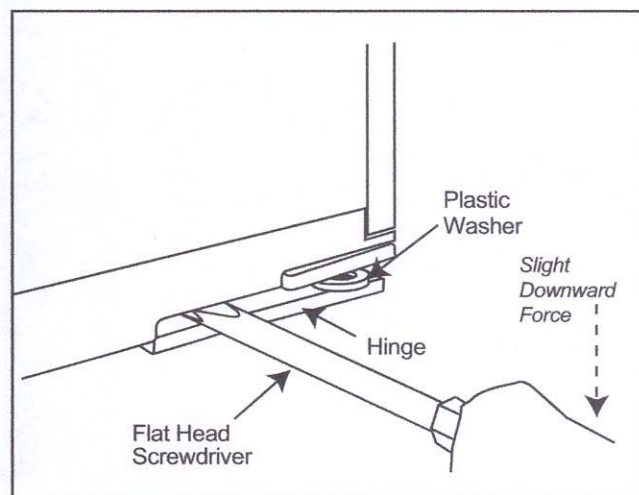

Figure 4. Plastic washer insertion (on both doors)
11. Insert the tip of a 1/4 in. size flat blade screwdriver as shown in Figure 4.
12. Apply slight downward pressure on the screwdriver to hold open a slight gap between the hinge and the door. See Figure 4.
13. Insert the plastic washer and center it on the existing bushing at the hinge pin hole. See Figure 4.